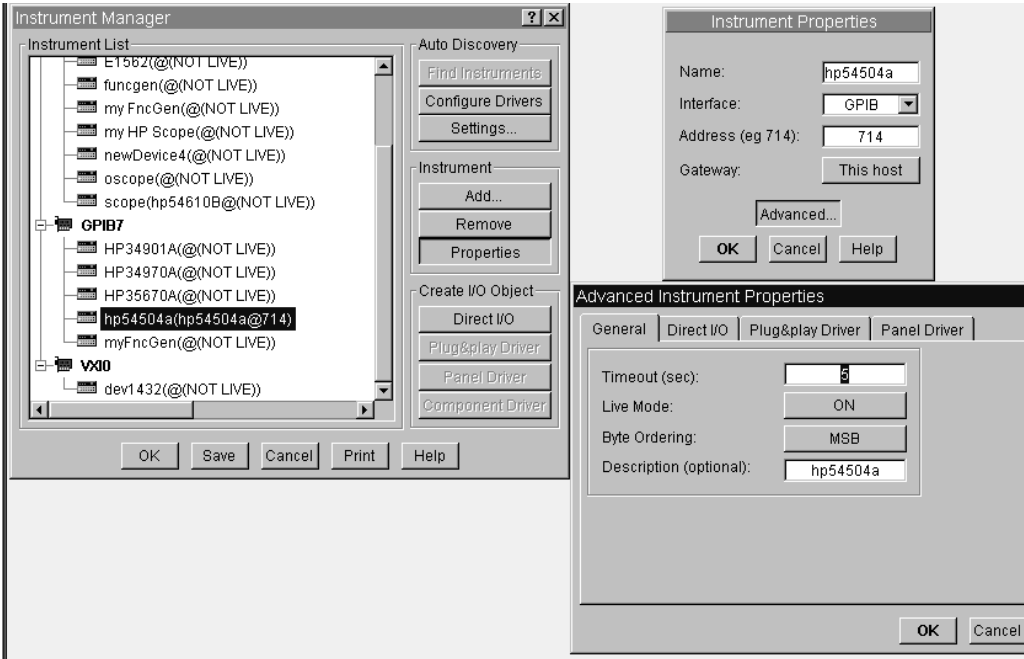

Figure 4.2. The Configured Instrument Manager
Name: Enter scope2. (It would be wise for those of you working together to agree on a naming procedure as illustrated in Figure 4.2. This will allow each of you to understand each other's programs. Later you can save time by choosing already existing virtual instruments. We have chosen hp54504a.)
12. Type in Description (optional): hp54504a; this description will appear on the Title Bar; the Instrument Manager will now display hp54504a in the Instrument List under GPIB7. See Figure 4.2.